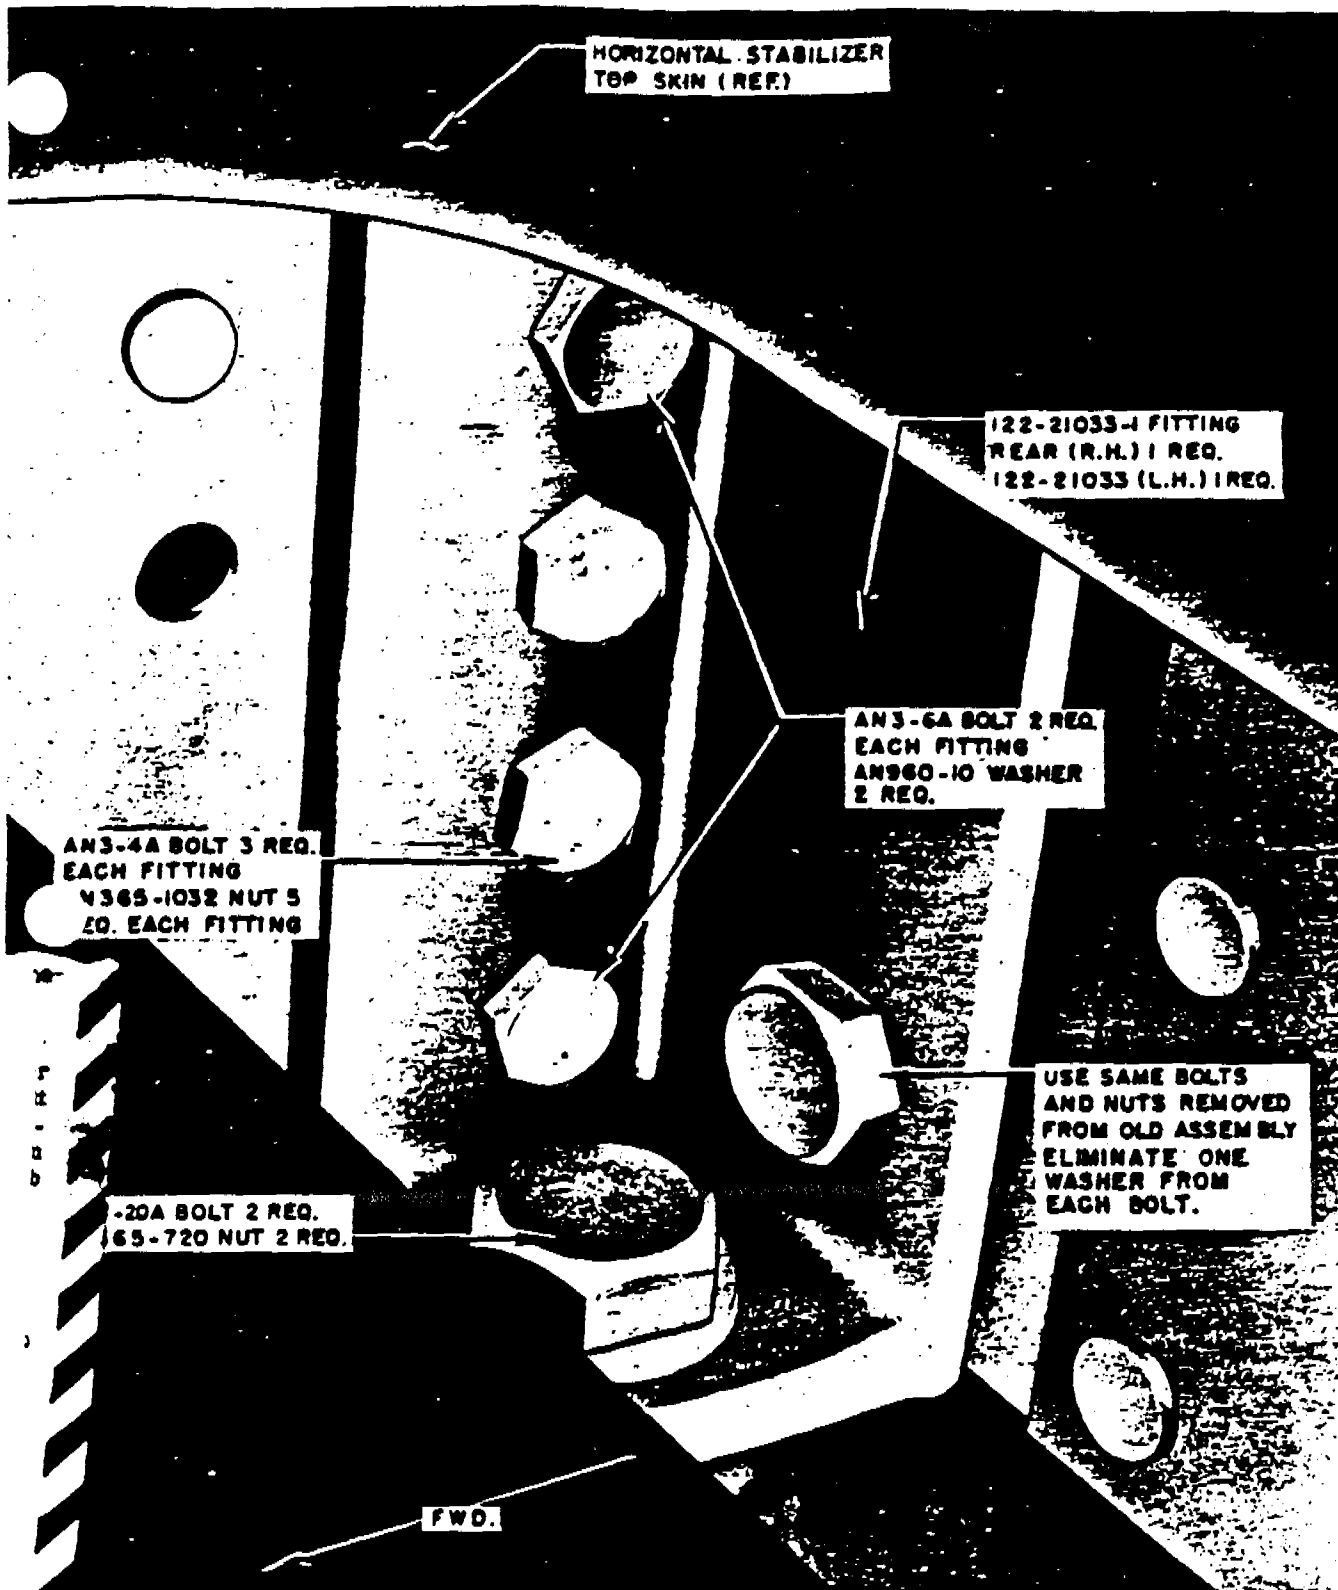

Figure 1 - View Showing Rear Casting Installed - Horizontal Stabilizer
(1) Remove the elevator horn assembly bracket from the center of the rear spar of the horizontal stabilizer by removing the four bolts and nuts securing it to the beam.
(2) Remove the two bolts and nuts securing each of the two rear castings to the horizontal stabilizer. Remove the three rivets securing each casting. (See figure 1.)
(7) Follow the instructions given in paragraph 2.g.(5) and drill the No. 12 (.189-inch diameter) holes in the new left-hand fitting, part No. 122-21033 (right-hand fitting, part No. 122-21033-1), and shim, part No. 122-21041. Secure the fittings and shims to the forward side of the stabilizer rear beam. Use the bolts, nuts, and washers formerly removed from this point. These bolts also attach the elevator horn assembly bracket on the aft side of the beam. This bracket is to be installed at this time. (See figures 1 and 4.)
(8) Install two each bolts, part No. AN3-6A, washers, part No. AN960-10, and nuts, part No. AN365-1032, through two of the holes of the fitting and the stabilizer rib. Enlarge the three remaining holes in the rib through the holes in the fitting with a No. 12 (.189-inch diameter) drill. Install three each bolts, part No. AN3-4A, washers, part No. AN960-10, and nuts, part No. AN365-1032. Remove the shim located